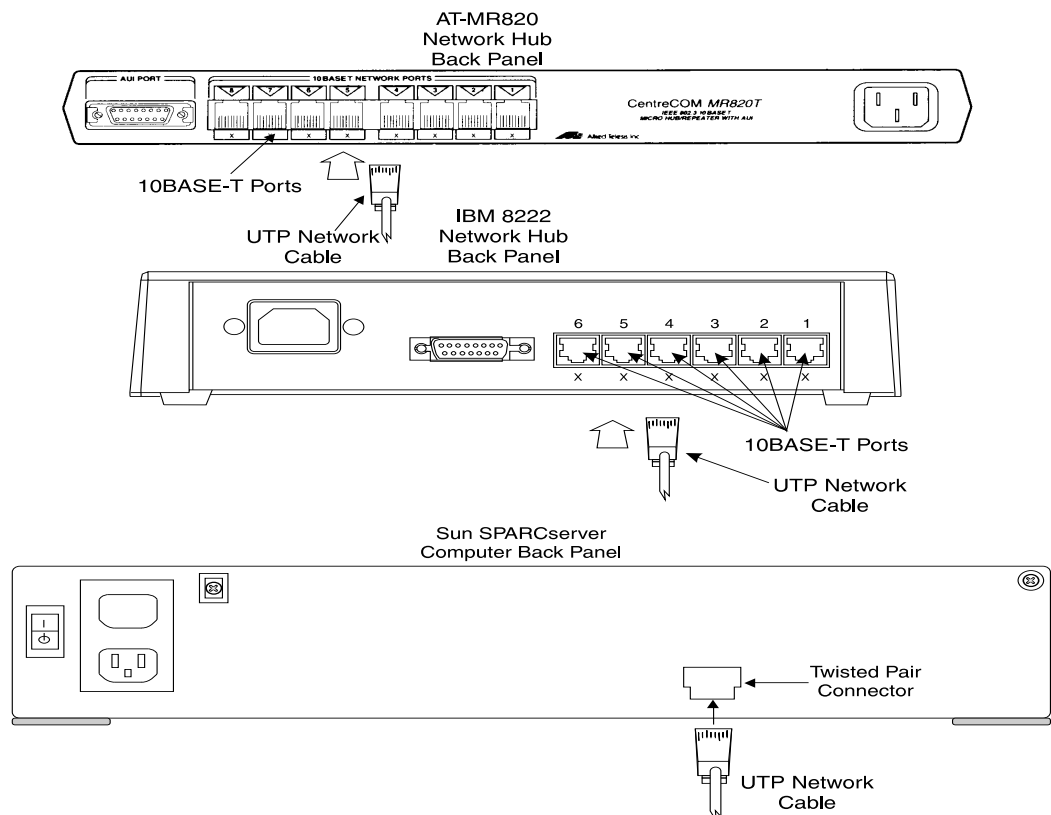

Figure D-49: Network Hub Units — Back Panel
To connect a network hub unit to the *Sun SPARCserver* computer, do the following (see Figure D-49):
4. Plug the other end of the UTP cable into Port 1 of the 10Base-T ports on the network hub unit (see Figure D-49).